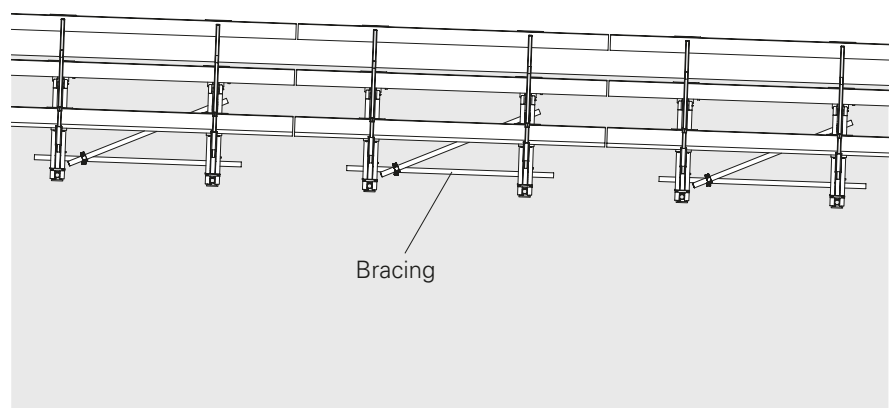

Fig. A8.03
- For longitudinal inclination $0\% < s \leq 3\%$, diagonal bracing and horizontal bracing must be installed. (Fig. A8.03)